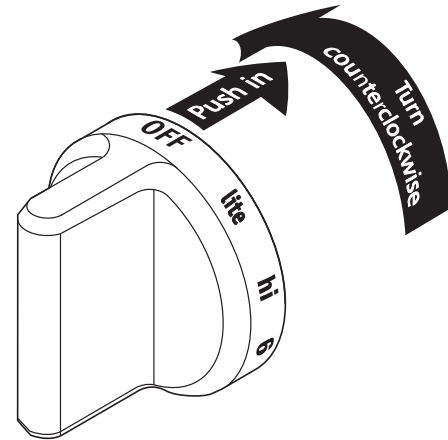

Fig. 1
2. Push the desired surface control knob in and turn **counterclockwise** out of the OFF position (Fig. 1).